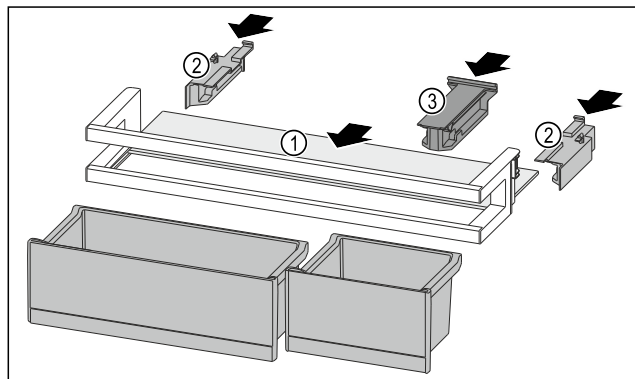

Fig. 122
- ▶ Push the shelf Fig. 122 (1) into the side recesses.
- ▶ Insert the side parts Fig. 122 (2).
- ▶ Insert the holding part Fig. 122 (3).